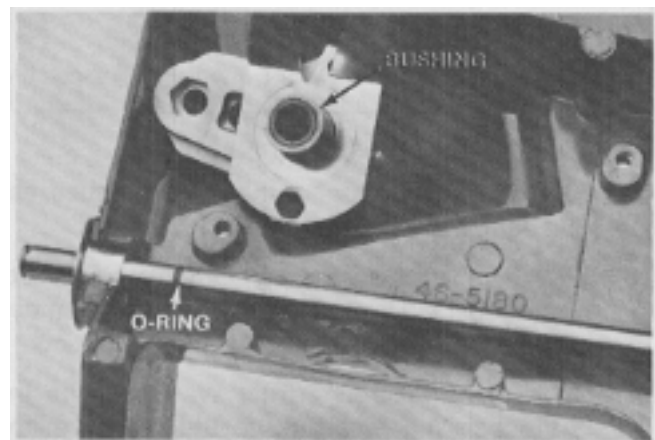

Figure 36
3. Press the oil impregnated bushing into the boss on the pivot arm until it is flush with the face of the boss. See Figure 36.
7. If removed, install new O-rings in the innermost groove 5.7 cm (2-1/4") in from end on each end making sure that it is fully seated in the groove. See Figure 36.